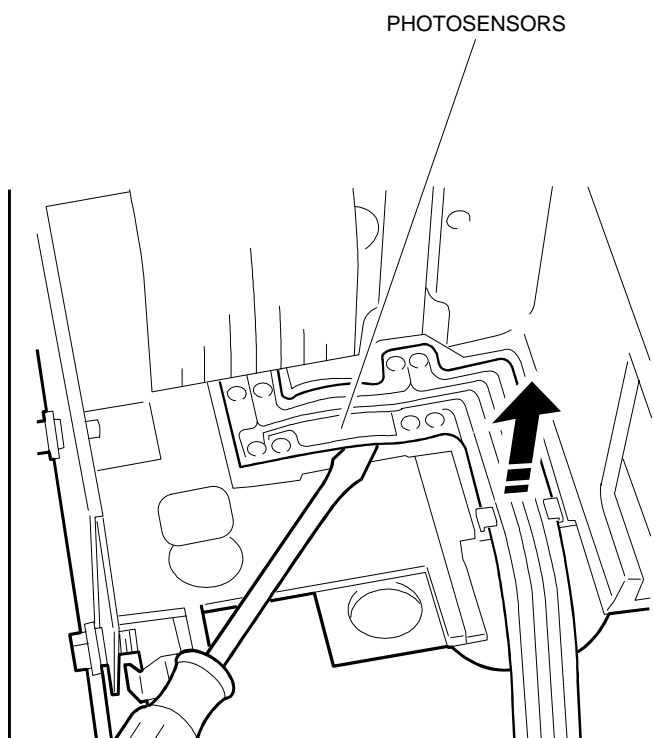

Figure 5-24
- Remove the photosensors by extracting them from their slots with a screwdriver (Figure 5-24).